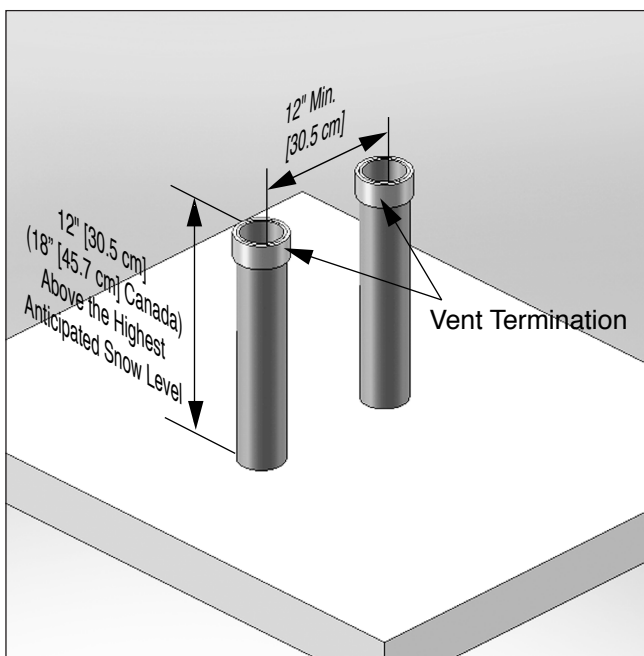
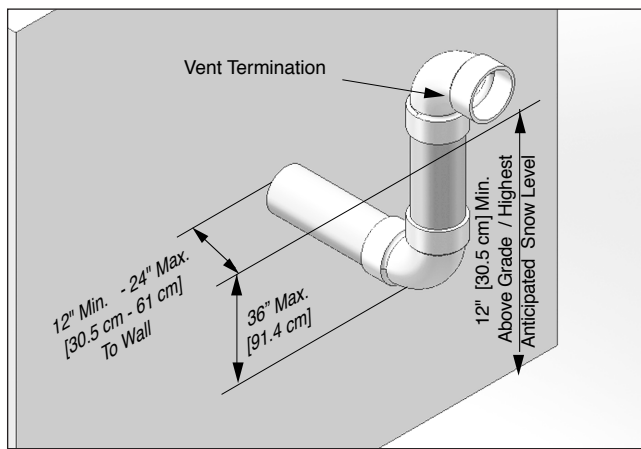

Fig. 17 - Category IV- Vertical Termination of Multiple INSTINCT Boilers
Fig. 19 - Category IV - Sidewall Snorkel Termination of Vent Pipe
2. Each vent termination must be a minimum 12" [30.5 cm] from the adjacent termination for installations in the U.S. as shown in *Fig. 17 below*. For installations in Canada, provide clearances as required by CAN/CSA B149.1.
- Using a 90° elbow as shown in *Fig. 19*.
3. Locate the vent pipe penetration to provide clearances as described in *Fig. 17 on page 26* and *Fig. 19 on page 27*.
- Using a 90° elbow as shown in *Fig. 19 on page 27*.
Do not extend the vent pipe outside the sidewall beyond the dimensions shown in *Fig. 17 on page 26* and *Fig. 19 on page 27*. Extended exposure of the vent pipe could cause condensate to freeze and block the vent pipe, resulting in substantial property damage, serious injury, or death.
- *Fig. 19 shows one option for vent terminations of multiple INSTINCT boilers. Either termination option shown in Fig. 17 on page 26 or Fig. 19 on page 27 can be used for multiple INSTINCT boilers. The 12" [30.5 cm] minimum distance between centerlines of the vent piping must be maintained for any chosen option.*
- *Reference Fig. 17 on page 26 and Fig. 19 on page 27 for vent termination dimensions for each unit installed in a multiple installation.*